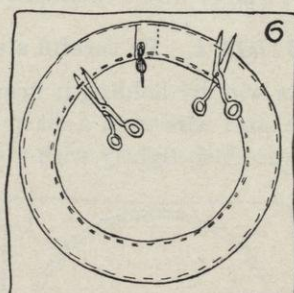

FIG. 6.
- a. Cut shirring and basting threads, and remove from steel wire (see Figure 6).
- a. See Job 19, Sections 6, 7, 8, and 9 and Figures 6 through 10 of that job (pages 80, 81 and 82).